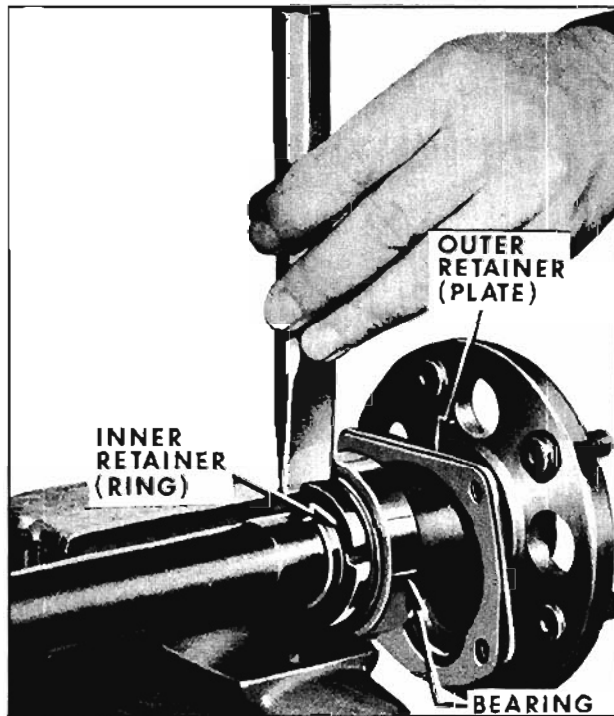

Fig. 10-104 Removing Bearing Retainer
1. Nick bearing retainer in three or four places with a chisel, deep enough to spread ring. Retainer will then slip off. (Fig. 10-104)